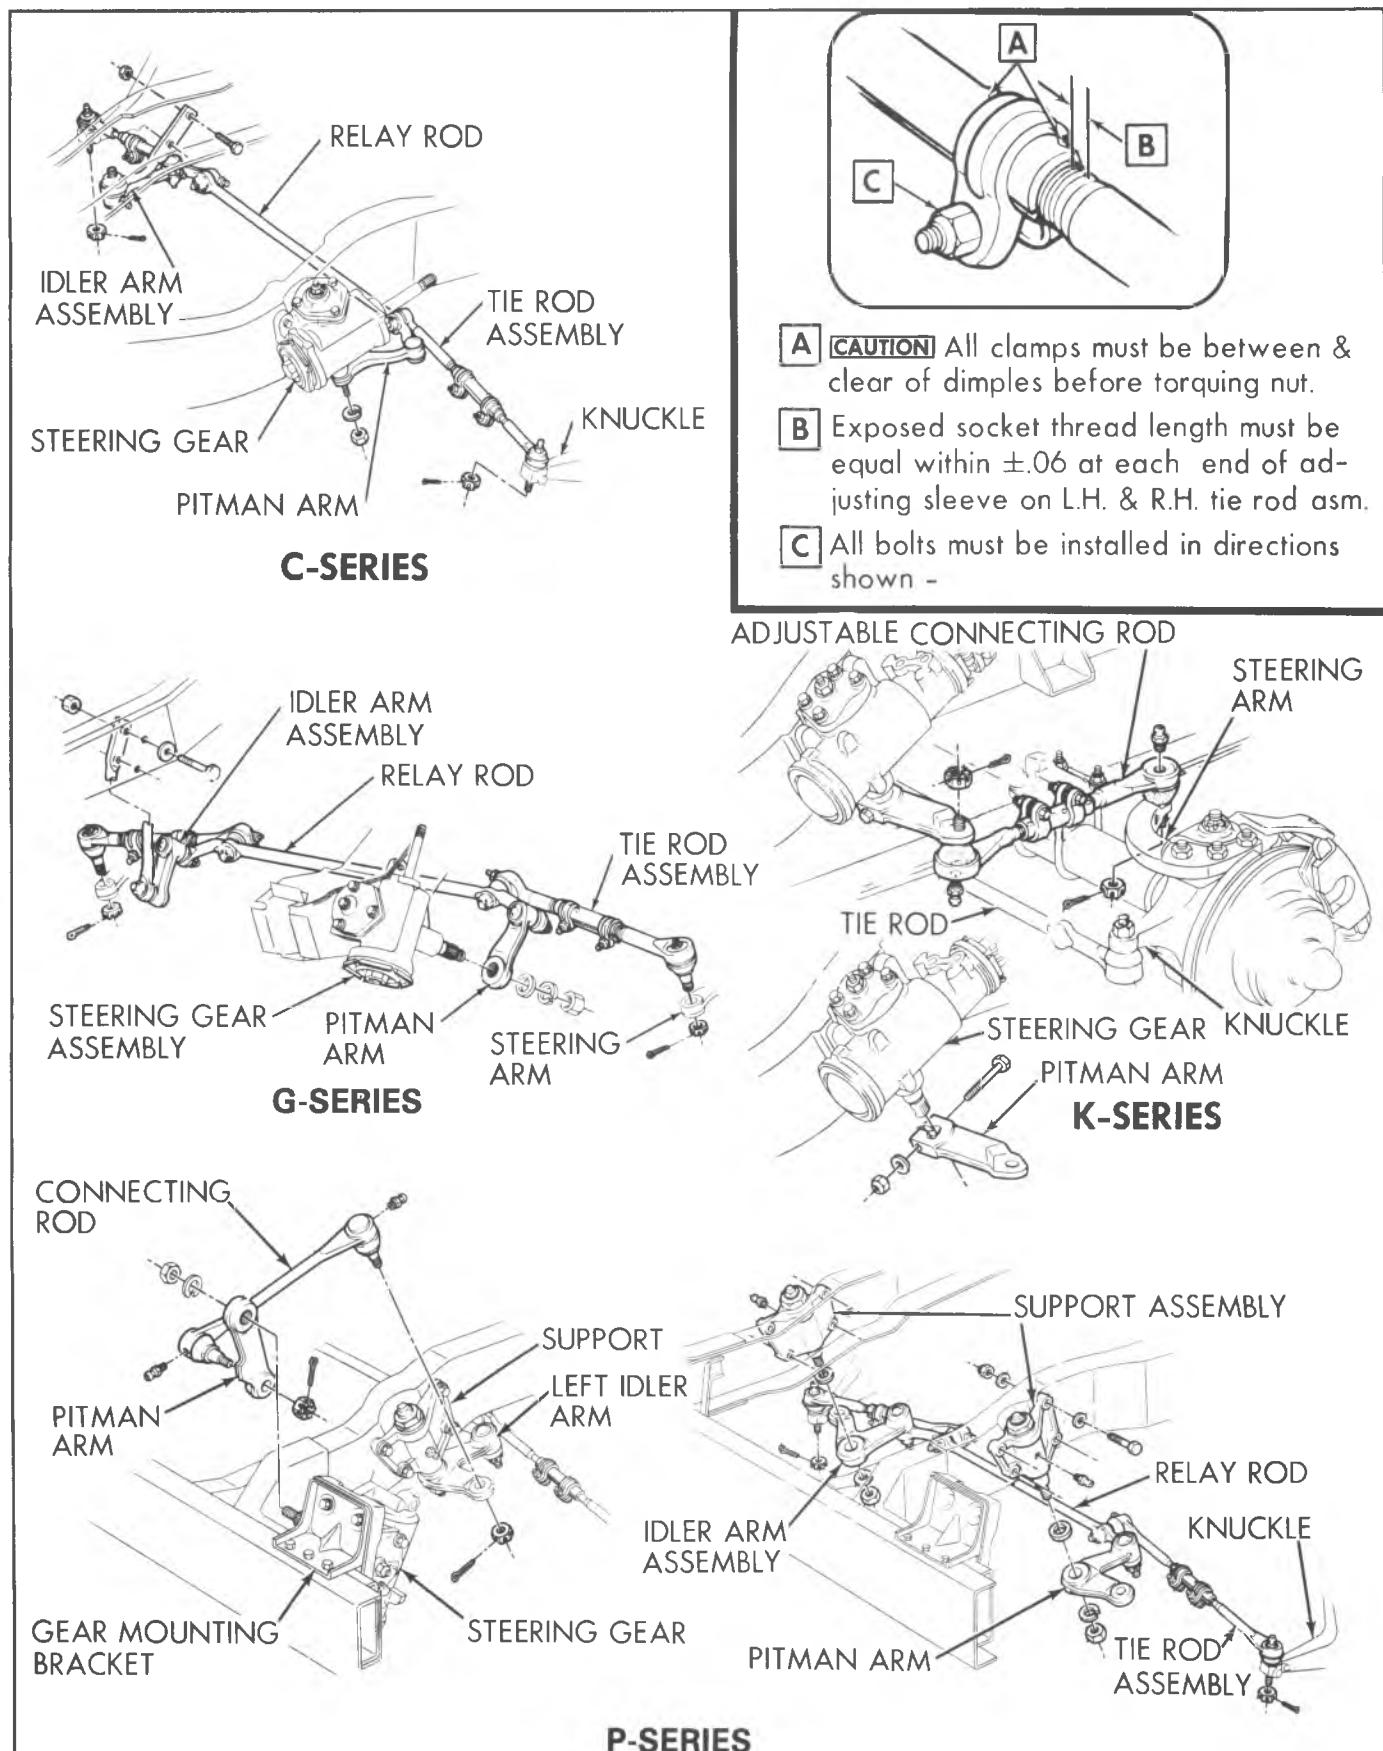

Fig. 3B1-5—Steering Linkage
c. Rotate outer tie rod end counterclockwise (up) to maximum position. Attach bevel protractor as shown in Figure 3B1-9. Center protractor bubble indicator and record reading.